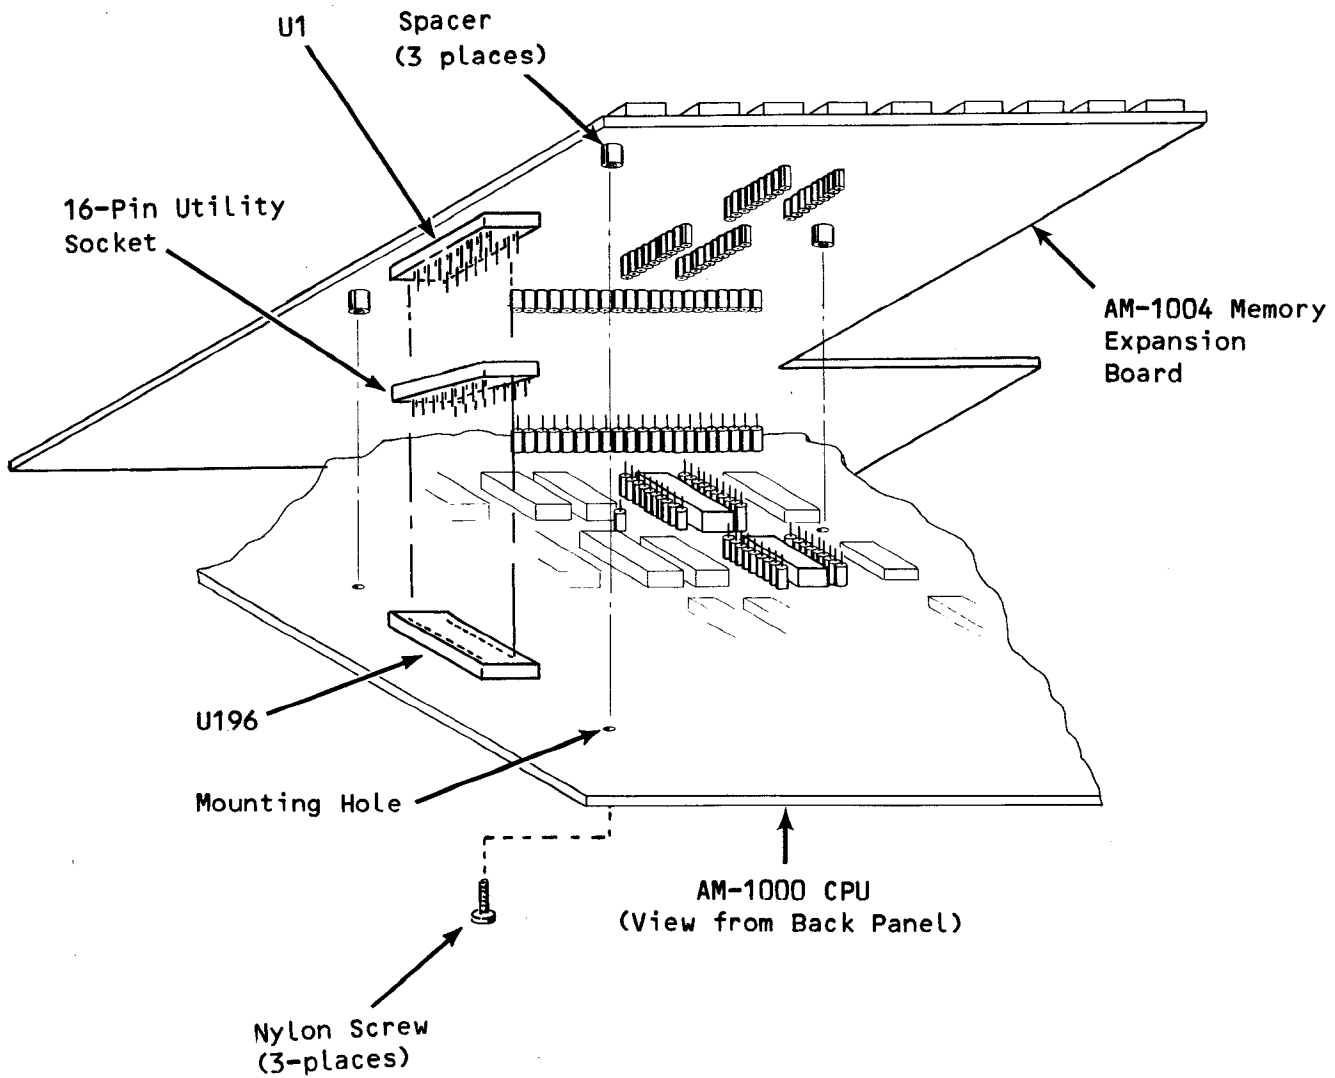

FIGURE 5. AM-1004 Connector Alignment
4. To install the AM-1004 printed circuit board, orient the receptacles on the bottom of it to align with the five single-line connectors, and U196, on the CPU board (Figure 5).